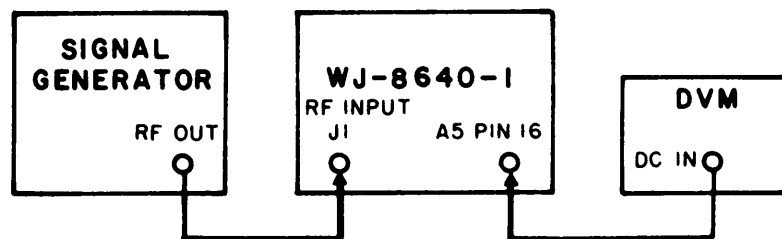

Figure 4-11. Test Setup, AGC/Squelch (A5) Alignment
- (1) Construct the circuit as shown in Figure 4-11.
- (2) Set Receiver controls as follows: GAIN-AGC, MODE-AM, BAND-LOW (within Tuner's range) , BANDWIDTH- 10 kHz .
- (3) Using the 22-pin extender card, extend the AGC/ SQUELCH card (A5).